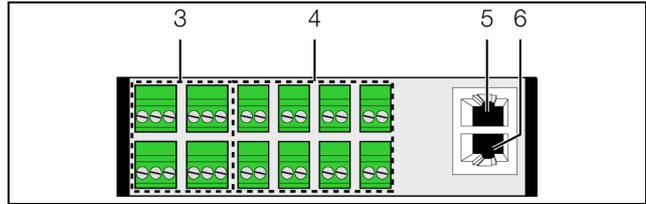

Fig. 9: Rear of the I/O unit
The voltage sources at positions 3, 4, 5 and 6 (fig. 9) must satisfy the Limited Power Source (LPS) requirements in accordance with UL 60950 and observe the limit values mentioned above.
A floating switch contact can be connected to each of the digital inputs so that, for example, the fault output of an external device can be evaluated (fig. 9, item 4).
- Use a CAN bus connection cable to connect the I/O unit to a CAN bus interface on the CMC III Processing Unit or the neighbouring component on the CAN bus (fig. 9, item 5).
- If necessary, connect another component (e.g. another sensor type) to the second, free CAN bus interface of the I/O unit (fig. 9, item 6).